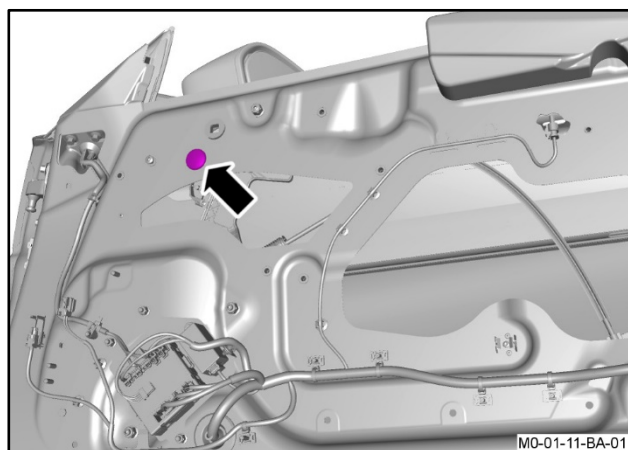

Figure 11
20. Remove the grommet (refer to Figure 11).